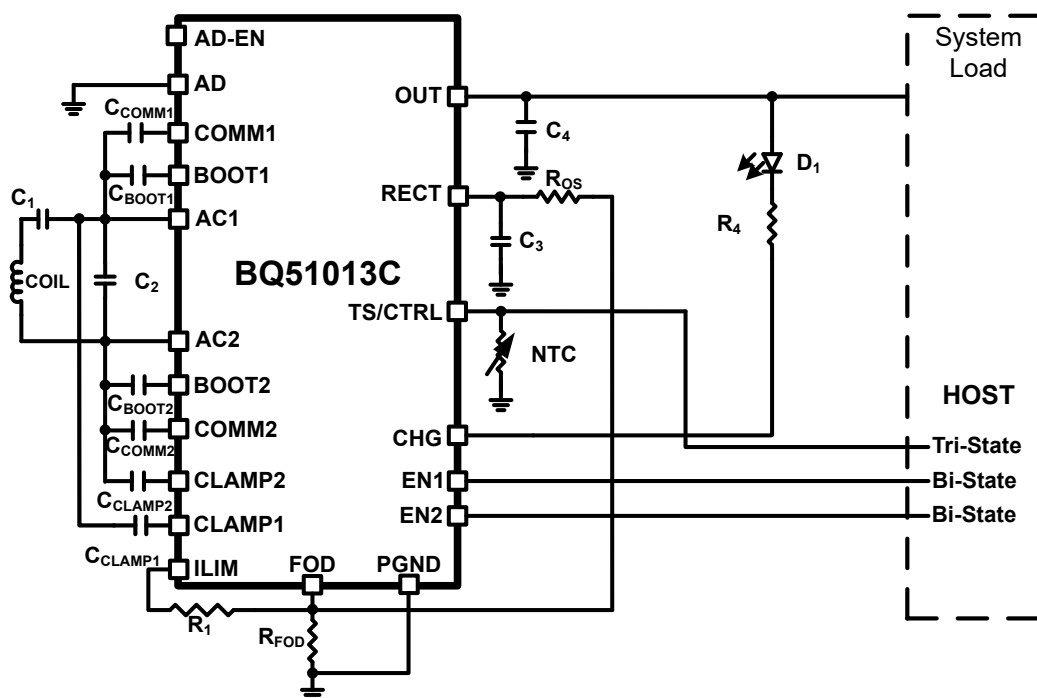
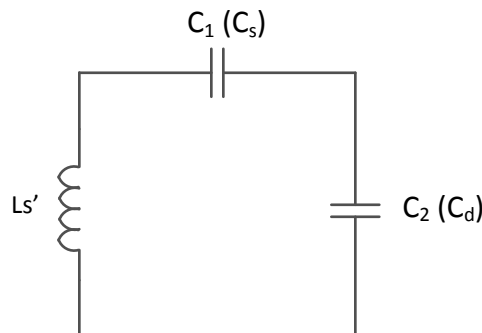

Figure 9-1. BQ51013C Used as a Wireless Power Receiver and Power Supply for System Loads
Figure 9-2. Dual Resonant Circuit With the Receiver Coil
9.2.1.2.1 Using the BQ51013C as a Wireless Power Supply: (See Figure 9-1)
When the system shown in Figure 9-1 is placed on the charging pad, the receiver coil is inductively coupled to the magnetic flux generated by the coil in the charging pad which consequently induces a voltage in the receiver coil. The internal synchronous rectifier feeds this voltage to the RECT pin which has the filter capacitor C3.
Shown in Figure 9-1, the capacitors C1 (series) and C2 (parallel) make up the dual resonant circuit with the receiver coil. These two capacitors must be sized correctly per the WPC v1.3 specification. Figure 9-2 illustrates the equivalent circuit of the dual resonant circuit: